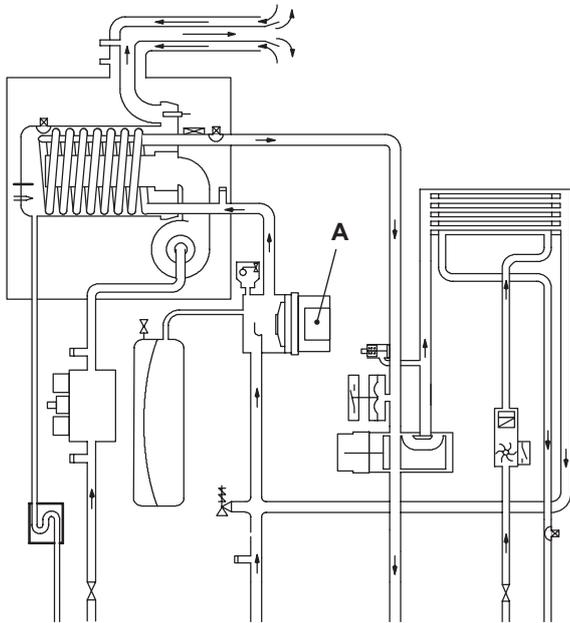
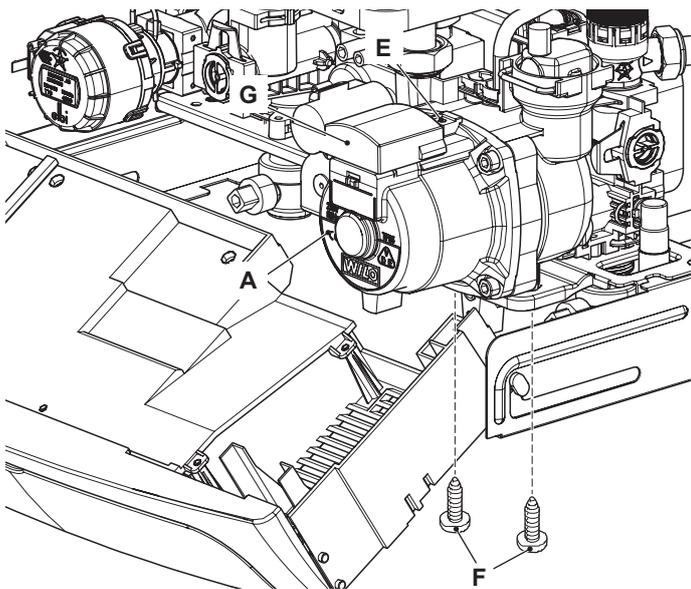

Figure 7.1
Figure 7.4
The pump A in Figure 7.1 and Figure 7.4 has the function of making the water in the main circuit circulate through the main heat exchanger, the condensing heat exchanger and therefore through the c.h. system (during the c.h. function) or through the secondary heat exchanger (during the d.h.w. function).
With the boiler off, remove the front panel and disconnect the connector G (Figure 7.4).
- 3 Disconnect the connector G (Figure 7.4) following the indications given on the connector box.
- 4 Disconnect the earth connector E (Figure 7.4).
- 2 Disconnect the connector G (Figure 7.4) following the indications given on the connector box.